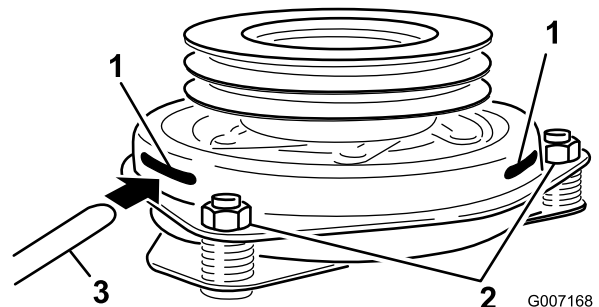

Figure 61
9. Insert a 0.015–0.021 inch (0.381–0.533 mm) feeler gauge through one inspection slot in the side of the assembly. Make sure it is between the armature and the rotor friction surfaces (Figure 61).
10. Tighten the lock nuts until there is slight binding on the feeler gauge but it can be moved easily within the air gap (Figure 61).